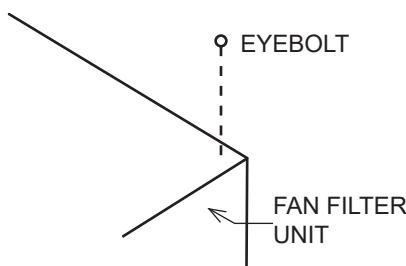

Figure 2: Hanger Supports
Step 3. If using rigidly supported grid (usually 2" (50 mm) or wider), raise unit through ceiling and lower onto the gasketed grid. If using a flexible grid (typically supported with wires), the unit must be secured to an engineered support system with eyebolts, s-hooks, and chain. Screw the four eyebolts into the nutserts on the lid assembly before lifting into an overhead position. (See Figure 2.)